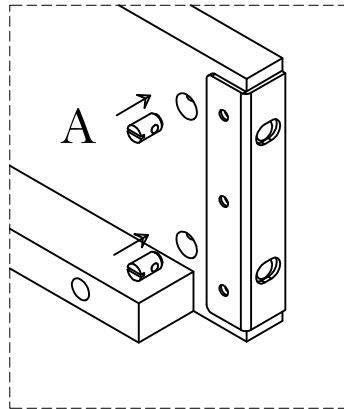

Figure 1
2. Insert the barrel nuts(A) into the holes in each bed rails as shown in (Figure 1). Make sure the slot on the top of the barrel nut is aligned with the hole in the end of bed rails as shown in (Figure 2). Once inserted, use a standard screwdriver to align the barrel nut. This will ensure proper alignment with the bolts later.